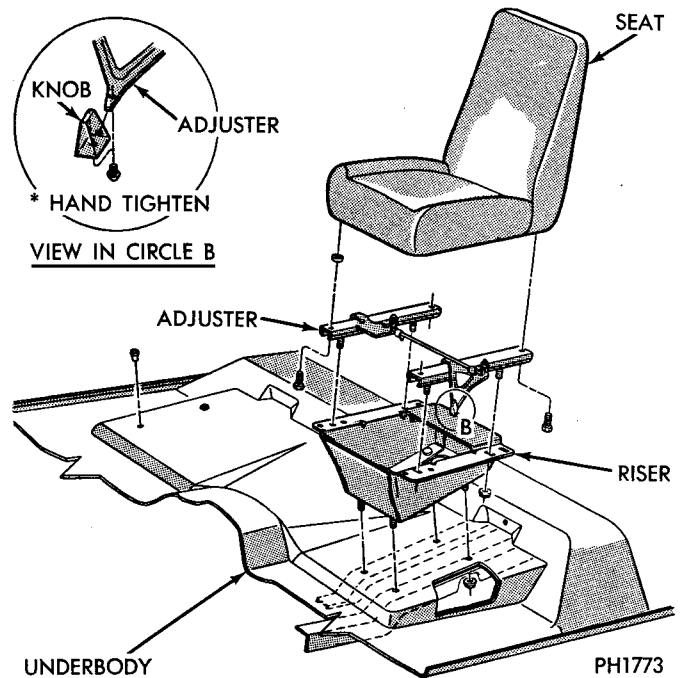

Fig. 7—Bucket Seat—Driver's Side
BUCKET SEAT—DRIVERS SIDE (Fig. 7)
- (1) To remove complete seat, adjuster, and riser, remove nuts mounting riser to underbody.
- (2) To remove individual assemblies refer to the assembly in (Fig. 7).
(1) To install complete seat adjuster and riser as one assembly, place assembly into position in vehicle and secure nuts to riser located on underbody.
(2) To install individual assemblies refer to (Fig. 7).